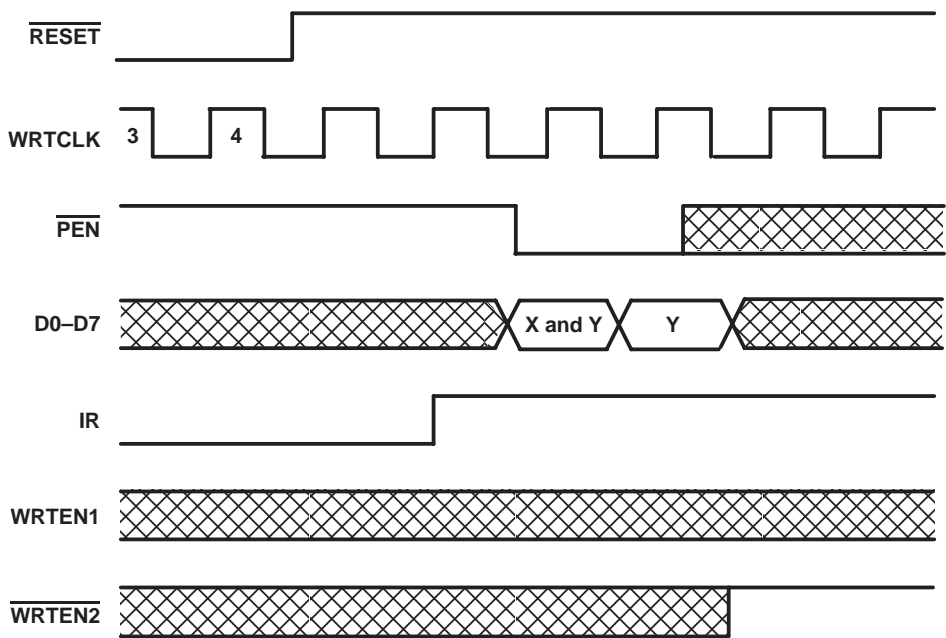

Figure 4. Programming X and Y Separately
Program enable (\overline{PEN}) should be held high throughout the reset cycle. \overline{PEN} can be brought low only when IR is high and WRTCLK is low. On the following low-to-high transition of WRTCLK, the binary value on D0–D7 is stored as the almost-empty offset value (X) and the almost-full offset value (Y). Holding \overline{PEN} low for another low-to-high transition of WRTCLK reprograms Y to the binary value on D0–D7 at the time of the second WRTCLK low-to-high transition. When the offsets are being programmed, writes to the FIFO memory are disabled, regardless of the state of the write enables (WRTEN1, WRTEN2). A maximum value of 255 can be programmed for either X or Y (see Figure 4). To use the default values of $X = Y = 64$, \overline{PEN} must be held high.